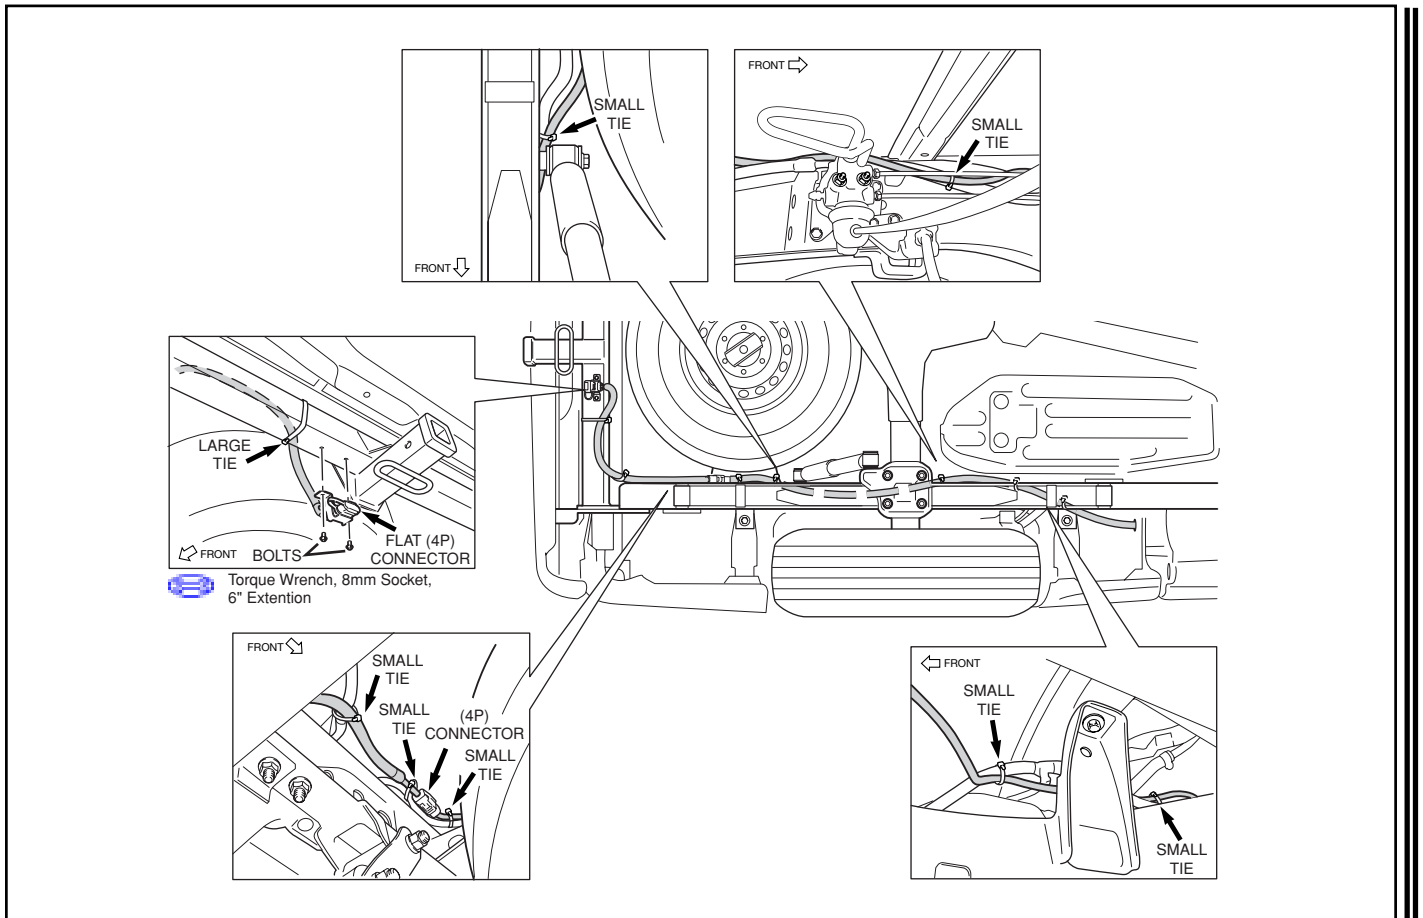

Fig. E8
- ➔ i. Route and secure (4P) wire harness and sub wire harness with plastic ties as shown. (Fig.E8)
- ➔ ii. Fasten flat (4P) connector with 2 bolts (included in kit). Torque bolts to 3.9 N•m [40 kgf•cm, 36 lbf•in]. (Fig. E8)